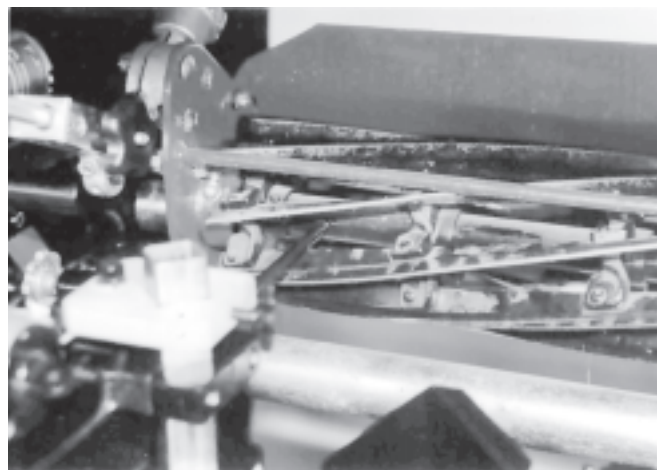

FIG. 46
- E. Move the alignment gauge to the left side of the reel carefully retracting the indicator rod so as not to damage or change setting. Set indicator rod on the same position on the reel as on the other side, that is 1" from the end and centered on the shaft. See FIG. 46. Now read the dial indicator to determine the distance the reel is out of position.
1. With the reel set gauge still in the left hand side of the reel, turn the horizontal adjusting screw (FIG. 43) in the direction required to match the initial indicator reading on the right hand reel position. See FIG. 46.